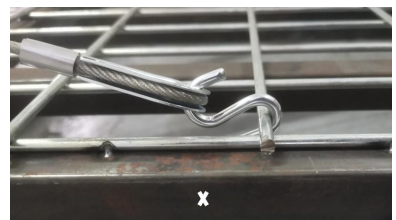

FIG. 5-2
B. If there is too much lifting power on the tailgate, and it will not go completely down or stay completely down, please refer to TROUBLESHOOTING #2. This involves using a marker or puncher to make a mark on the tailgate side support tube/angle at the same height as the opening in the cable loop, as shown in X of Fig 5-2.